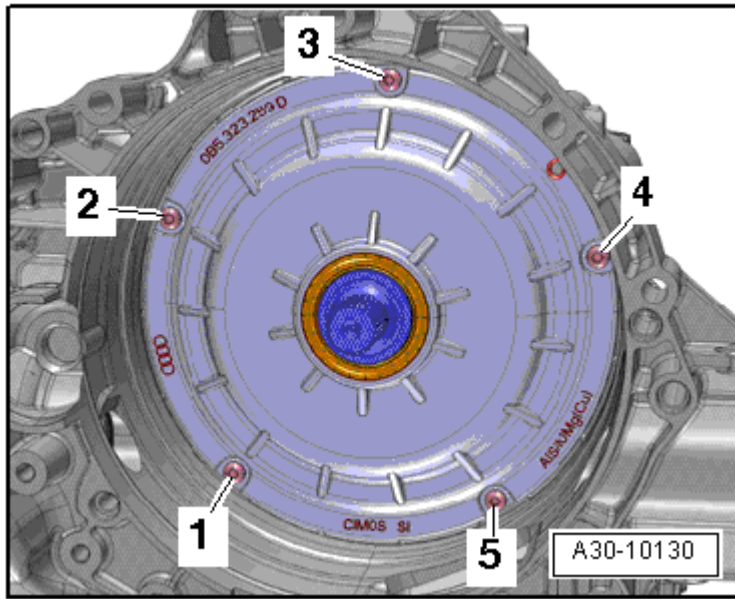

Fig. 2: Dual Clutch And Clutch Cover Tightening Sequence
- Tightening specification and sequence, refer to **Fig. 2**